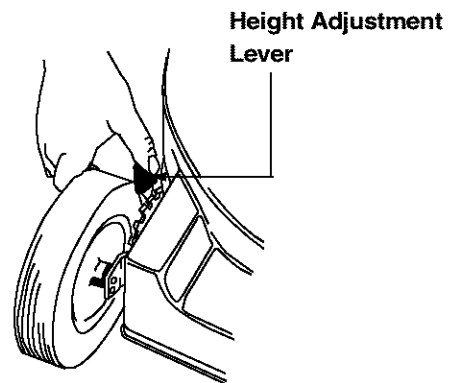

Figure 15
- Simply depress the lever towards the wheel and move the lever assembly to desired position. See Figure 15.